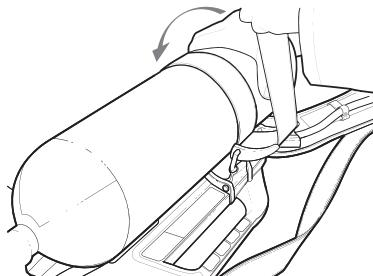

Fig. 36 Securing the cylinder strap
- Pull the strap over the cylinder to operate the cam-lock buckle (Fig. 36).